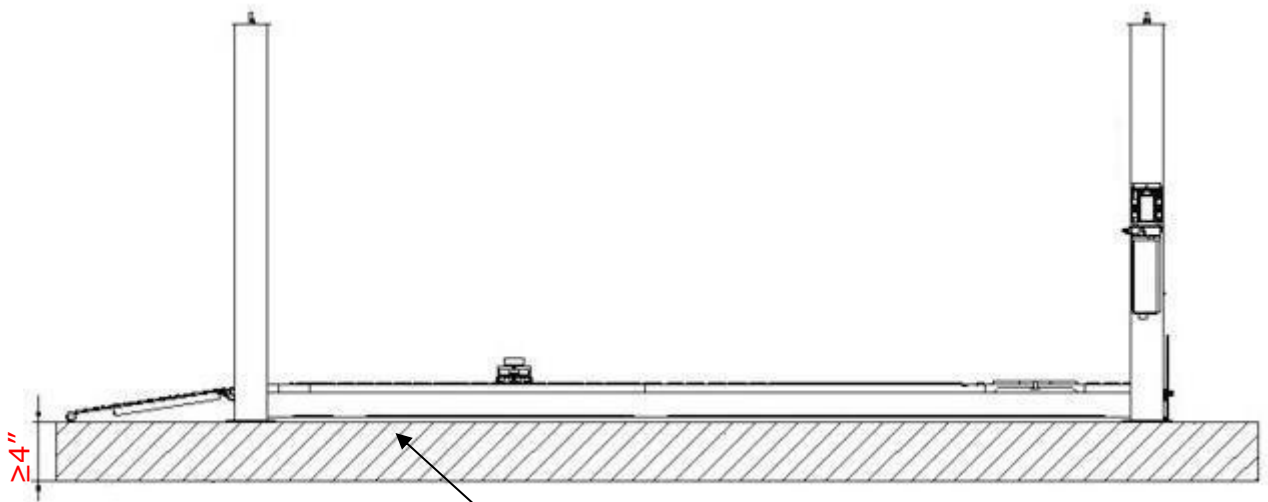

Fig. 5 Concrete Intensity must be 3000PSI minimum
C. SPECIFICATIONS OF CONCRETE (See Fig. 5)